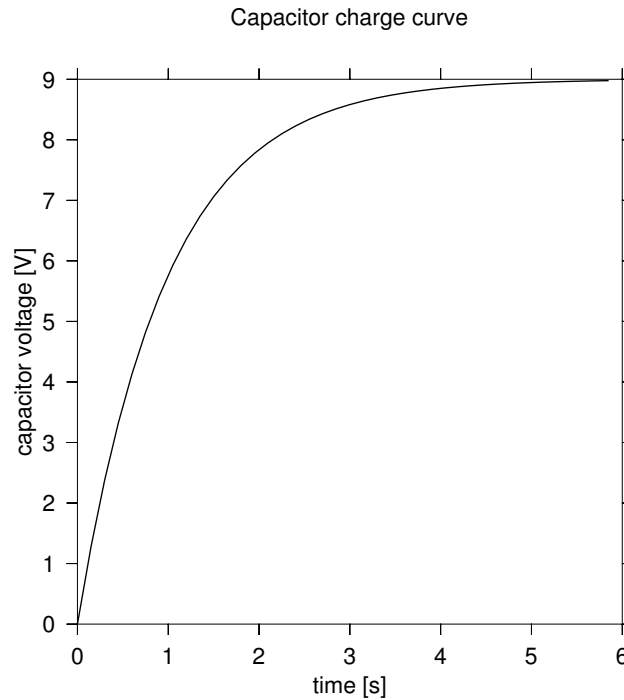

Figure 6.2.: Capacitor charge curve
Figure 6.2 is a plot of this equation. Of special interest is when $t = RC$ where R is in Ohms and C in Farads, v_c will be $0.632 \cdot V_s$. Table 6.1 shows a few other values.
5. Your goal is to get a trace similar to that shown in figure 6.2 or 6.3 with the time between 90% and 10% spread out as much as possible on the oscilloscope display. Spreading out this waveform horizontally as much as possible will lead to most accurate results.